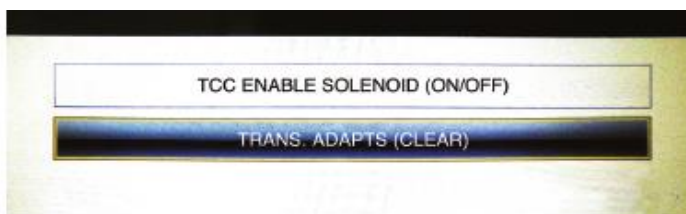

Figure 7. Clearing the adaptive settings.
- Select the fast learn or “Adapts (clear)” process from the scan tool menu. Figure 7.